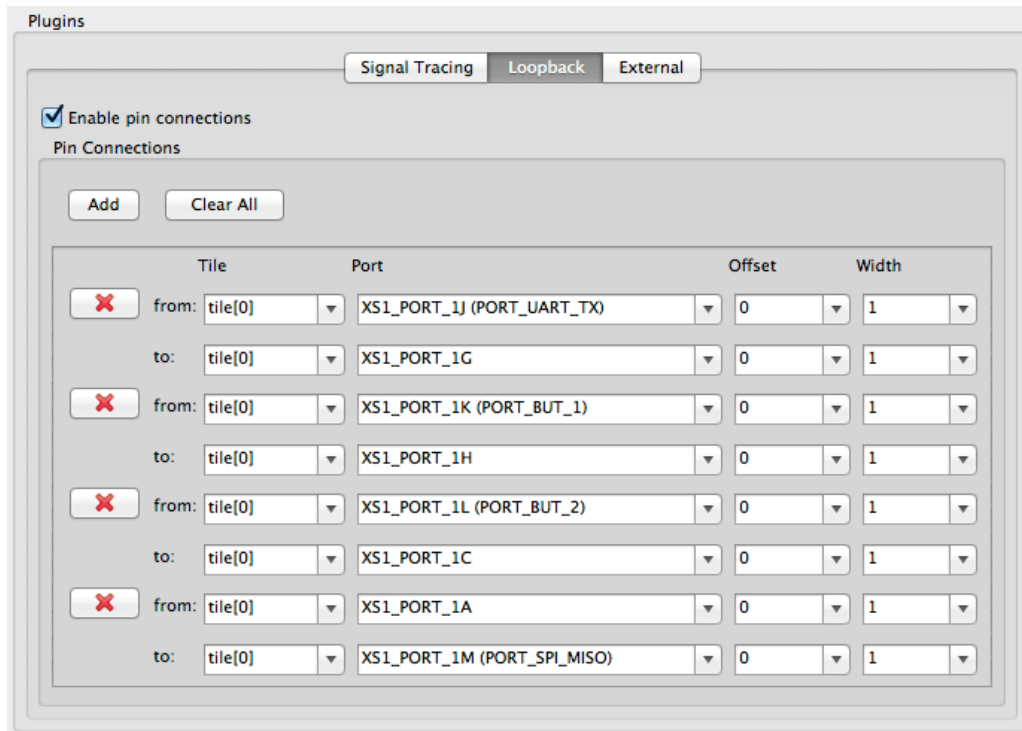

Figure 6: Screen capture showing loopback settings
8. Create a loopback for Port 1K to Port 1H, Port 1L to 1C, and Port 1A to 1M (Figure 6).